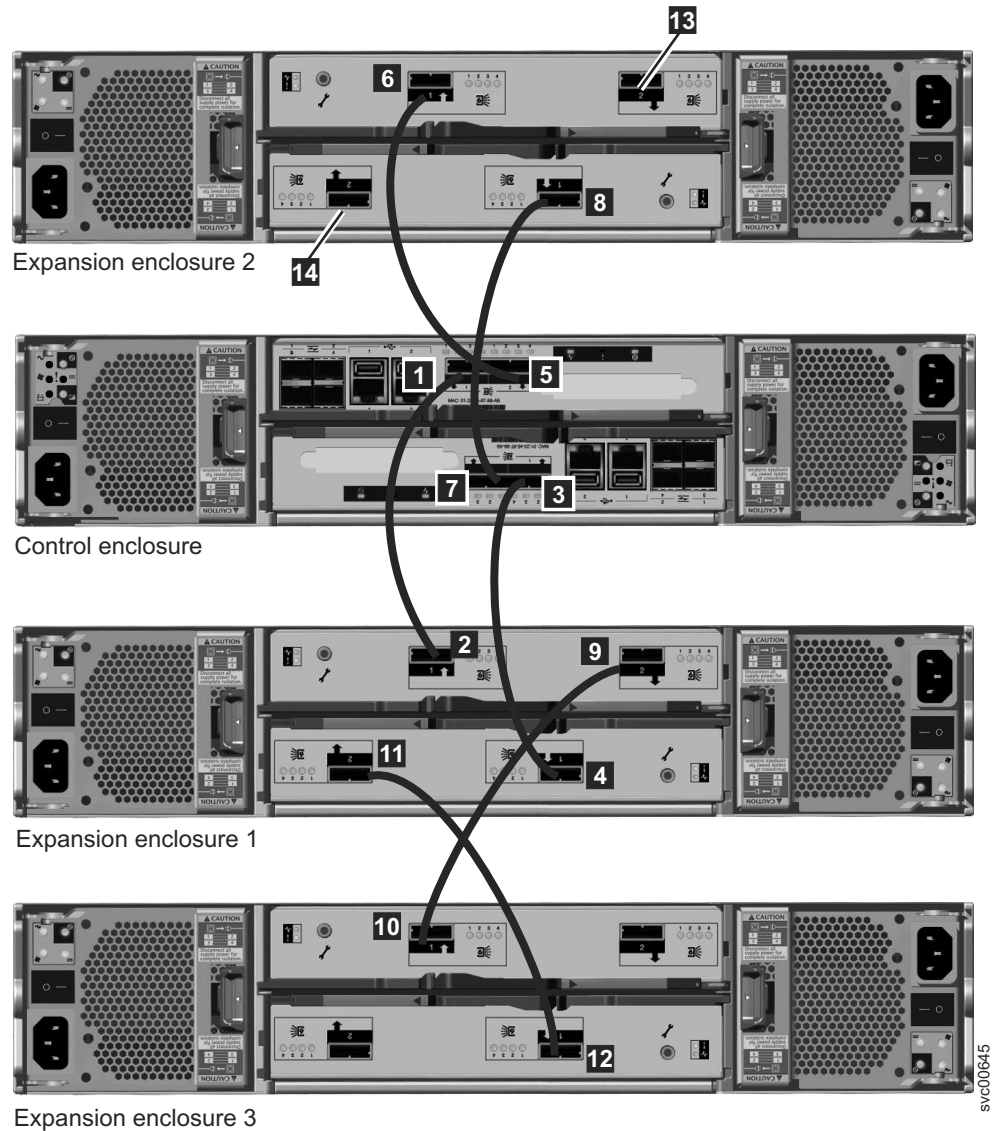

Figure 48. Attaching SAS cables to the enclosures
4. Attach the SAS cables from the first expansion enclosure to the third expansion enclosure. See Figure 48 on page 57.